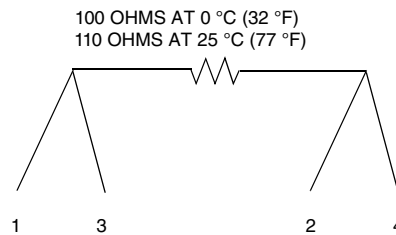

Figure 17. Resistance between Flowtube Wires Connected to Transmitter Terminals 1, 2, 3, and 4
2. Using an ohmmeter, confirm that approximately $110\ \Omega$ at $25\ ^\circ\text{C}$ ($77\ ^\circ\text{F}$) exists between the flowtube wires normally connected to terminals 1 (or 3) and 2 (or 4). The resistance is dependent on flowtube temperature at time of measurement. Nominal resistance is $100\ \Omega$ at $0\ ^\circ\text{C}$ ($32\ ^\circ\text{F}$). See Figure 17.